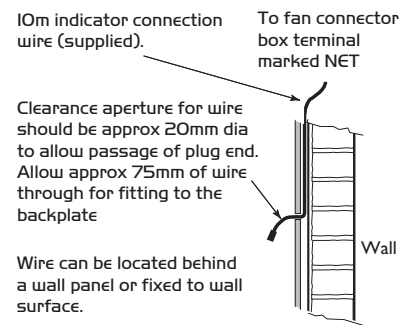

Figure 1.
- b) Select a suitable location for the indicator and arrange the cable in position. Leave approx. 75mm of the cable free at the mounting point to ease the connection of the plug. (fig. 1).